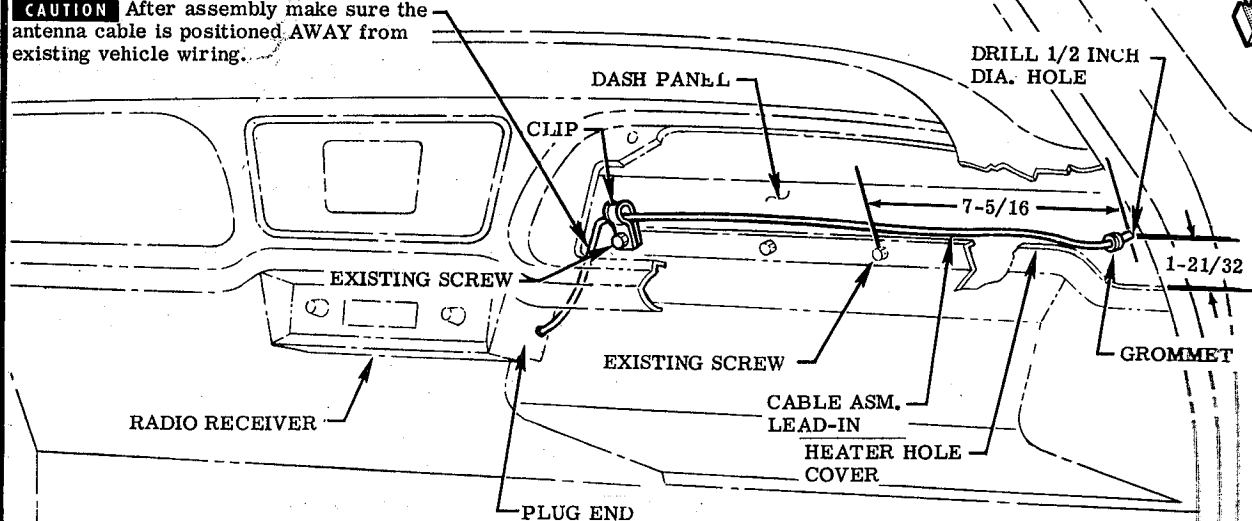

FIG. 4 CABLE ASSY. LEAD-IN
STEP 12 LOCATE & DRILL A HOLE IN THE DASH PANEL. SEE FIG. 4.
STEP 14 SLIDE GROMMET OVER PLUG END OF CABLE ASM. & INSERT INTO DASH. SEE FIG. 4.
STEP 15 ROUTE CABLE ACROSS TOP OF HEATER HOLE COVER & SECURE WITH CLIP & EXISTING SCREW. SEE FIG. 4.